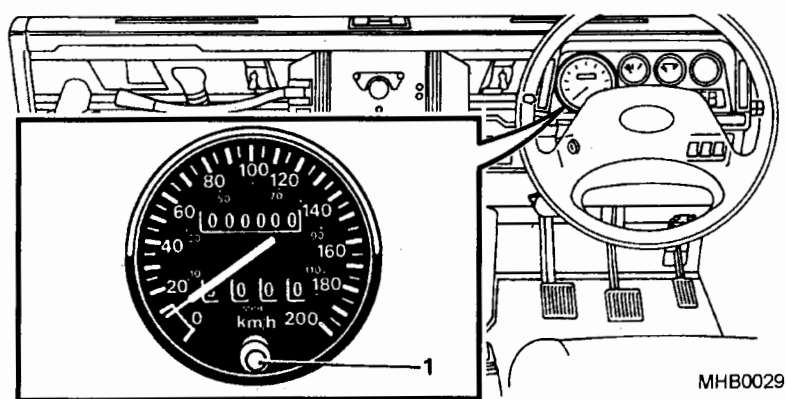

Fig 8 Speedometer and trip setting
20 The speedometer (Fig 8) indicates the speed of the vehicle in kilometres per hour with a miles per hour subscale. The speedometer incorporates a total distance indicator and a trip distance indicator with a trip reset button (1).